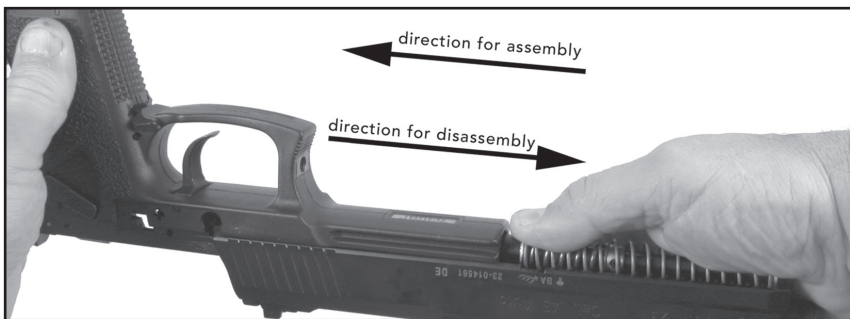

Figure 13 - Correct Position for Holding Slide for Disassembly & Reassembly
6. Remove the slide with barrel and captured recoil/buffer spring assembly off of the frame by sliding it forward (see Figure 13).
6. Hold the slide in the right hand with the thumb holding the rear end of the recoil/buffer spring assembly in place on the slide (see Figure 13).